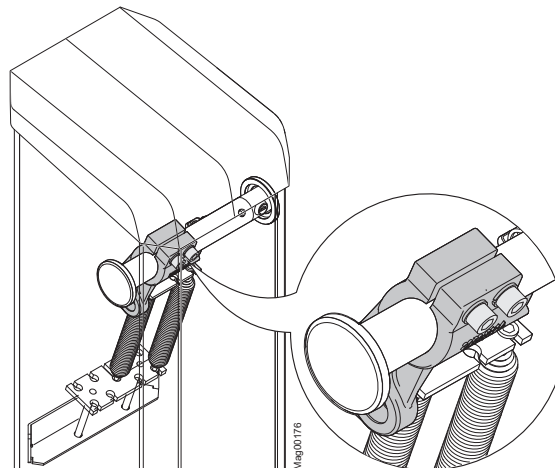

Fig. 26: Loosen hexagon socket screws at the clamping lever
18. Check vertical alignment of the barrier boom. If required, correct position of the flange and the barrier boom via the hexagon socket screws at the clamping lever. → See page 61, Fig. 26.